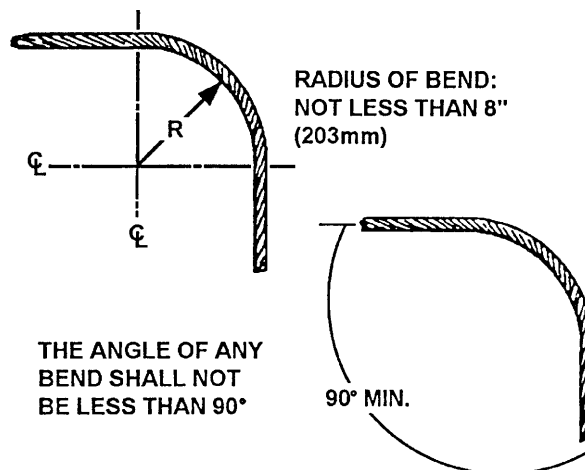

Figure 23
2. Bends should not be less than 90 degrees and should not have less than an eight-inch radius, see Fig. 23 below.
Make sure that any bends in the conductor do not have less than an 8-inch radius. This provides a smoother path for current to flow, see Fig. 23 on page 4-2.